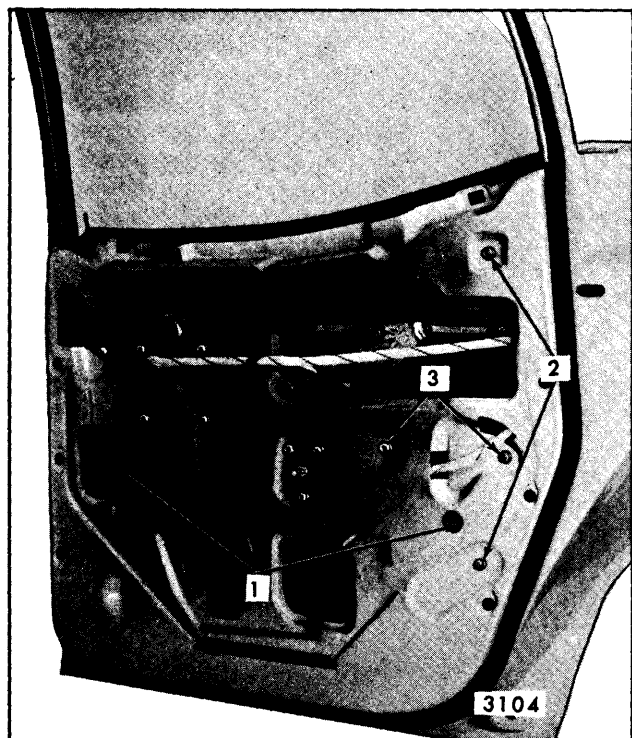

Fig. 6-117—Rear Door Window Removal and Adjustments - "A" Closed Styles
2. With window in a three-quarter lowered position, remove window lower sash channel cam attaching screws ("1", Figure 6-117).
3. Loosen rear glass run channel upper and lower attaching screws ("2", Figure 6-117).
Adjustments have been provided to relieve a binding door glass due to misalignment of the glass run channel ("2", Figure 6-117). In addition, the door window inner panel cam ("3", Figure 6-117) is adjustable which can correct a rotated (cocked) front door window.